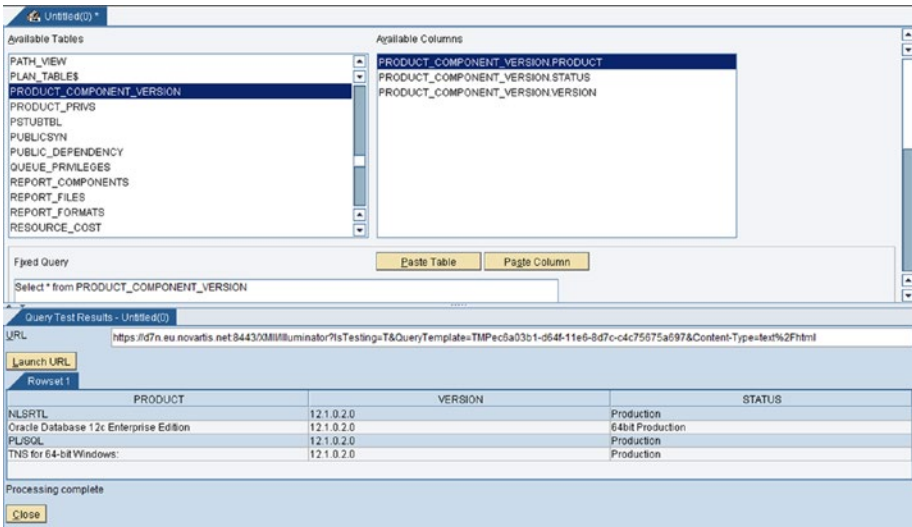

Figure 6-11. Internal Panel Query execution mode
- *Internal panel:* This is an internal panel that appears just below but inside of the query panel and displays the query result, as shown in Figure 6-11.